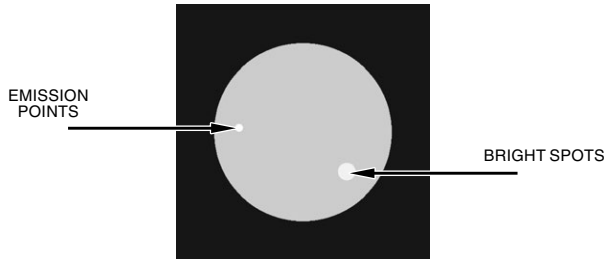

FIGURE 2.5. BRIGHT SPOTS AND EMISSION POINTS
(1) Bright Spots. A bright spot is a small, nonuniform, bright area that may flicker or appear constant (Figure 2.5.). Not all bright spots make the NVG rejectable. Cup your hand over the objective lens to block out all light. If the bright spot remains, return the NVG to the maintainer. Bright spots usually go away when the light is blocked out. Make sure any bright spot is not simply a bright area in the
(2) Emission Points. A steady or fluctuating pinpoint of bright light in image area that does not go away when all light is blocked from the objective lens of the goggles (Figure 2.5.). The position of an emission point within the image area does not move.